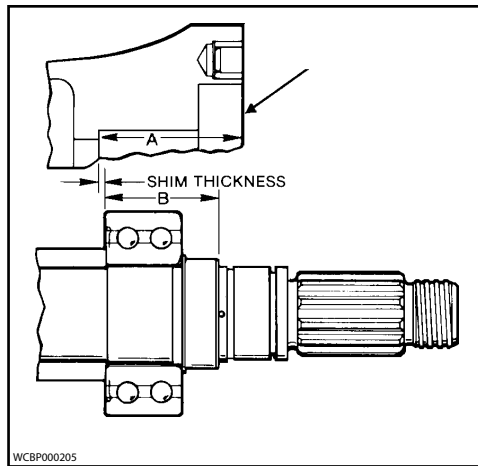

Figure 74 - Measure A and B
4. **If it is necessary to calculate the required shims for replacement shafts, bearings or both,** refer to Figure 74; carry measurements and calculations to three decimal places (e.g., 0.059).